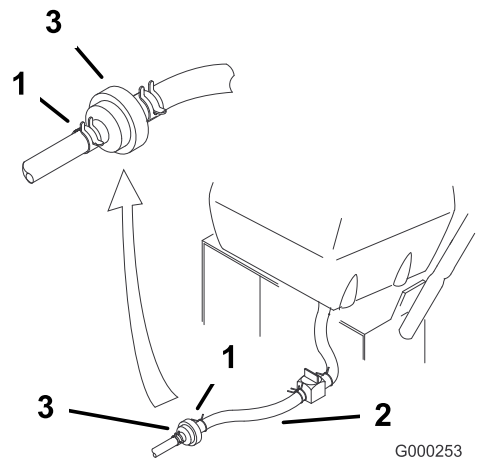

Figure 37
4. Squeeze the ends of the hose clamps together and slide them away from the filter (Figure 37).